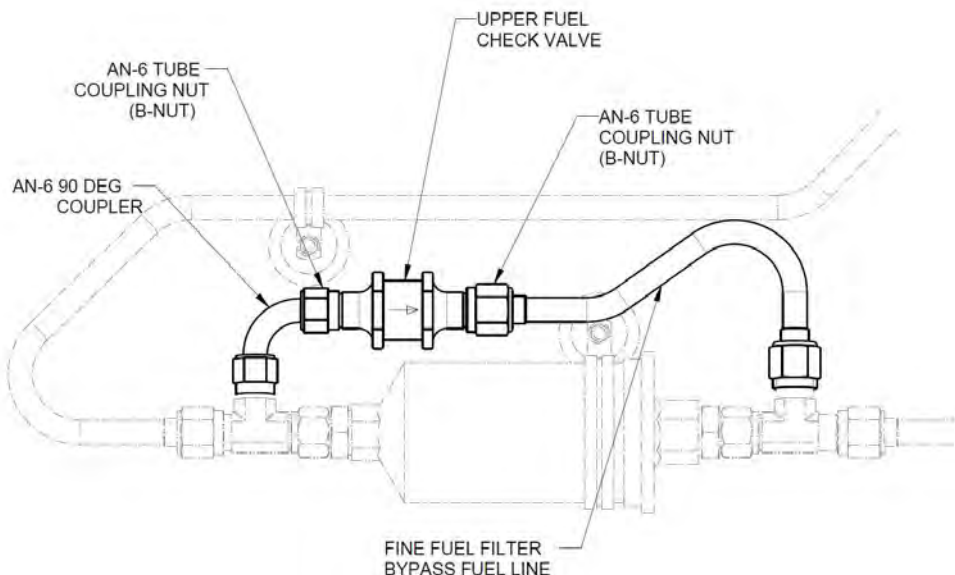

FIGURE 11-29
7. Loosen the AN-6 B-nut on each end of the Check Valve. (See Figure 11-29.)
NOTE: See the fuel flow direction in Figure 11-29.
3. Install the AN-6 90° Coupler. (See Figure 11-29.)